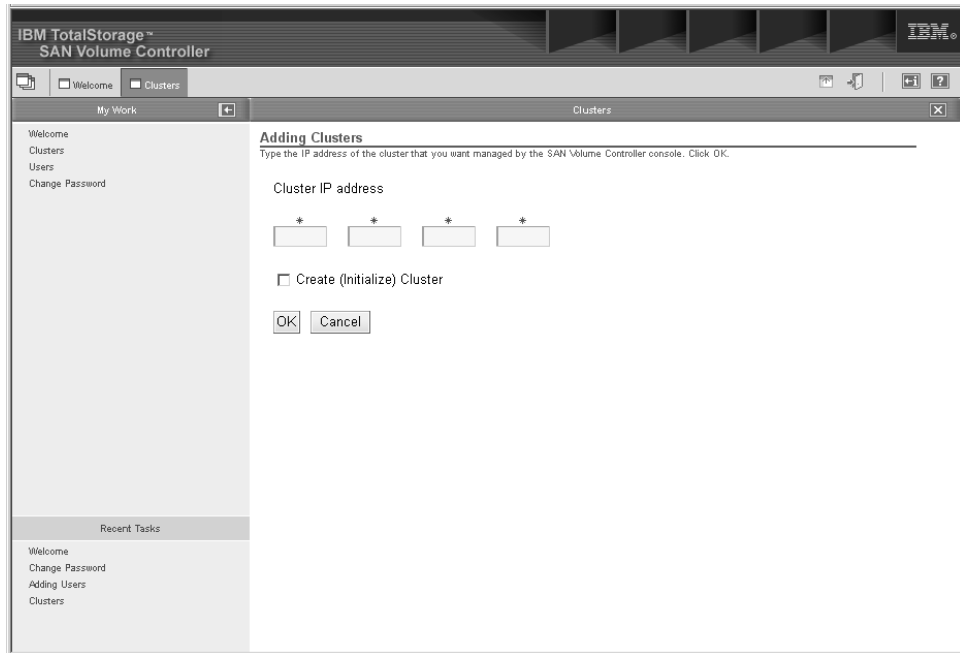

Figure 26. Add Cluster panel
- a. The Welcome panel is shown as in Figure 26 on page 110. Click the **Add SAN Volume Controller Cluster** button.